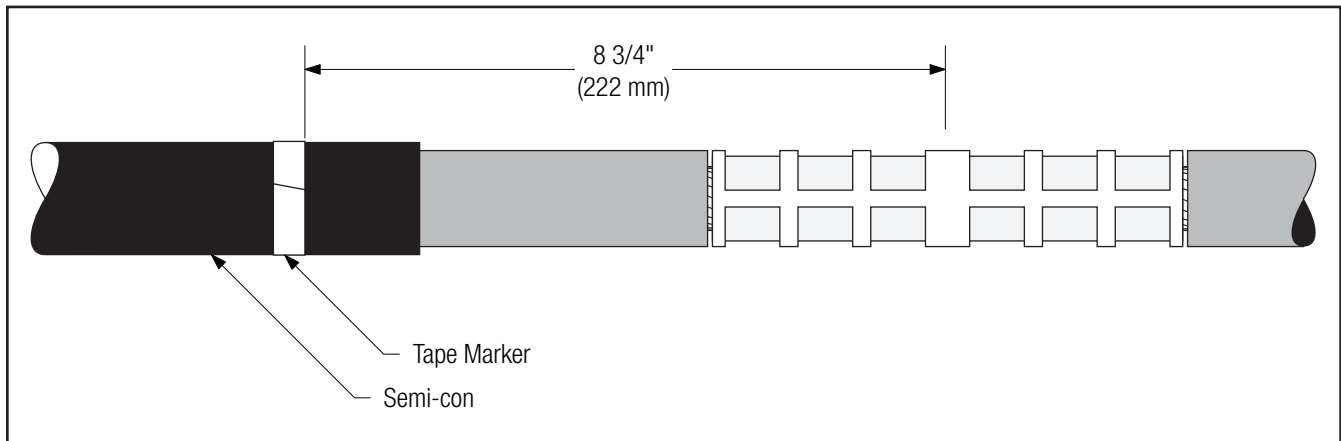

Figure 17
- 5.1 Apply a tape marker to semi-con insulation shield on cable which does not contain splice. Measure 8 3/4" (222 mm) from center of connector (*Figure 17*).